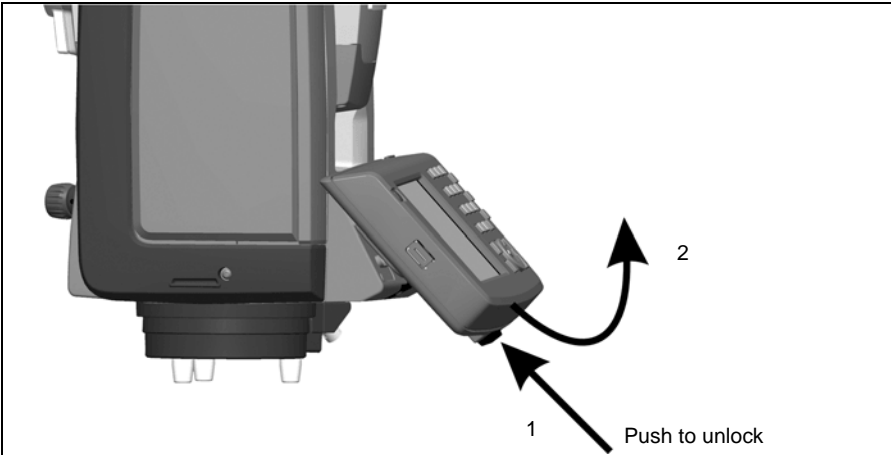

Figure 4.37 Detaching the Trimble CU
1. Push the lock release button on the bottom of the Trimble CU, Figure 4.37 (1)
2. Lift the bottom of the Trimble CU away from the instrument, Figure 4.37 (2)